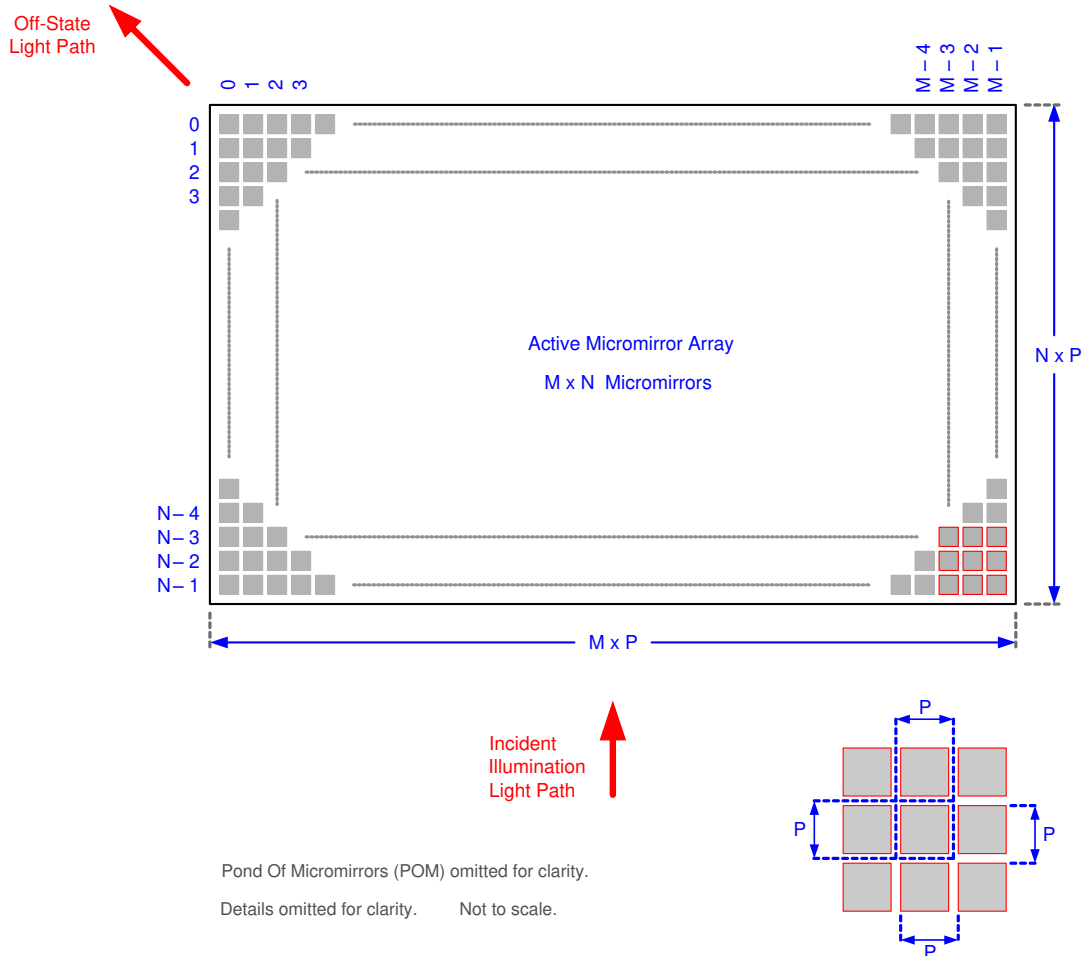

Figure 6-14. Micromirror Array Physical Characteristics
- (1) See Figure 6-14.
- (2) The fast switching speed of the DMD micromirrors combined with advanced DLP image processing algorithms enables each micromirror to display four distinct pixels on the screen during every frame, resulting in a full 3840 × 2160 pixel image being displayed.
- (3) The structure and qualities of the border around the active array includes a band of partially functional micromirrors referred to as the *Pond Of Micromirrors* (POM). These micromirrors are structurally and/or electrically prevented from tilting toward the bright or ON state but still require an electrical bias to tilt toward the OFF state.